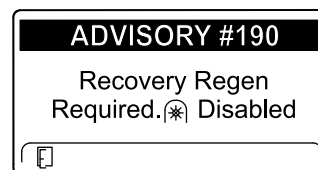

Figure 48
- Recovery regeneration required—power takeoff disabled ADVISORY #190 (Figure 48)